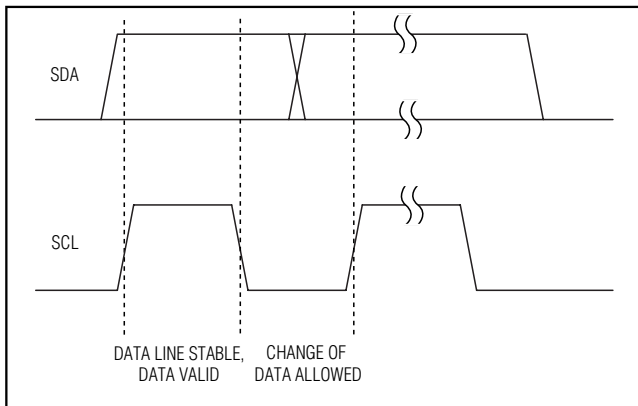
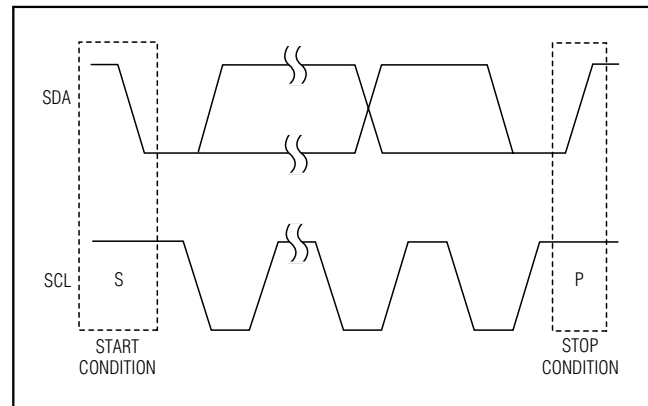
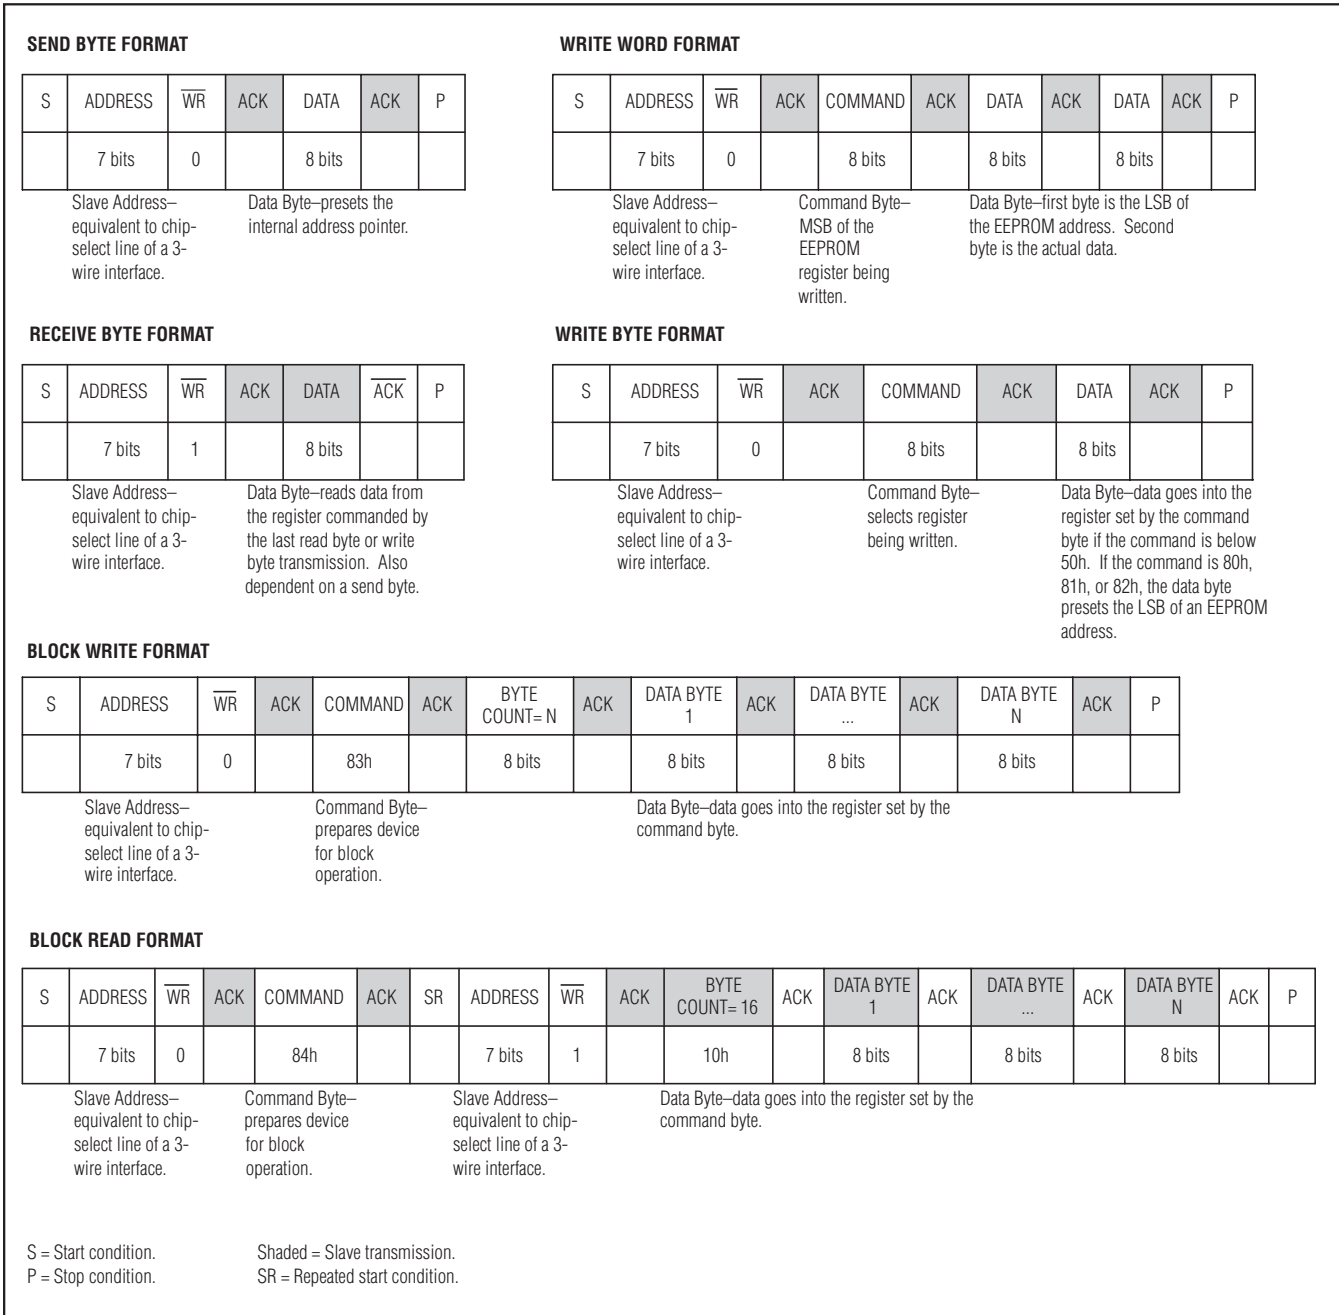

Figure 3. Bit Transfer
Figure 4. Start and Stop Conditions
Figure 7. SMBus/I²C Protocols
Each clock pulse transfers one data bit. The data on SDA must remain stable while SCL is high (Figure 3), otherwise the MAX6874/MAX6875 register a START or STOP condition (Figure 4) from the master. SDA and SCL idle high when the bus is not busy.
Both SCL and SDA idle high when the bus is not busy. A master device signals the beginning of a transmission with a START (S) condition (Figure 4) by transitioning SDA from high to low while SCL is high. The master device issues a STOP (P) condition (Figure 4) by transitioning SDA from low to high while SCL is high. A STOP condition frees the bus for another transmission. The bus remains active if a REPEATED START condition is generated, such as in the block read protocol (see Figure 7).
A REPEATED START (SR) condition may indicate a change of data direction on the bus. Such a change occurs when a command word is required to initiate a read operation (see Figure 7). SR may also be used when the bus master is writing to several I²C devices and does not want to relinquish control of the bus. The MAX6874/MAX6875 serial interface supports continuous write operations with or without an SR condition separating them. Continuous read operations require SR conditions because of the change in direction of data flow.
The send byte protocol allows the master device to send one byte of data to the slave device (see Figure 7). The send byte presets a register pointer address for a subsequent read or write. The slave sends a NACK instead of an ACK if the master tries to send an address that is not allowed. If the master sends 80h, 81h, or 82h, the data is ACK. This could be start of the write byte/word protocol, and the slave expects at least one further data byte. If the master sends a stop condition, the internal address pointer does not change. If the master sends 84h, this signifies that the block read protocol is expected, and a repeated start condition should follow. The device reboots if the master sends 88h. The send byte procedure follows:
The write byte/word protocol allows the master device to write a single byte in the register bank, preset an EEPROM (configuration or user) address for a subsequent read, or to write a single byte to the configuration or user EEPROM (see Figure 7). The write byte/word procedure follows:
The block write protocol allows the master device to write a block of data (1 to 16 bytes) to the EEPROM or to the register bank (see Figure 7). The destination address must already be set by the send byte or write byte protocol and the command code must be 83h. If the number of bytes to be written causes the address pointer to exceed 45h for the configuration register or configuration EEPROM, the address pointer stays at 45h, overwriting this memory address with the remaining bytes of data. The last data byte sent is stored at register address 45h. If the number of bytes to be written exceeds the address pointer FFh for the user EEPROM, the address pointer loops back to 00h, and continues writing bytes until all data is written. The block write procedure follows:
The receive byte protocol allows the master device to read the register content of the MAX6874/MAX6875 (see Figure 7). The EEPROM or register address must be preset with a send byte or write word protocol first. Once the read is complete, the internal pointer increases by one. Repeating the receive byte protocol reads the contents of the next address. The receive byte procedure follows:
The block read protocol allows the master device to read a block of 16 bytes from the EEPROM or register bank (see Figure 7). Read fewer than 16 bytes of data by issuing an early STOP condition from the master, or by generating a NACK with the master. The send byte or write byte protocol predetermines the destination address with a command code of 84h. The block read procedure follows:
The 512 byte user EEPROM addresses range from 8100h to 82FFh (see Figure 7). Store software-revision data, board-revision data, and other data in these registers. The maximum cycle time to write a single byte is 11ms (max).